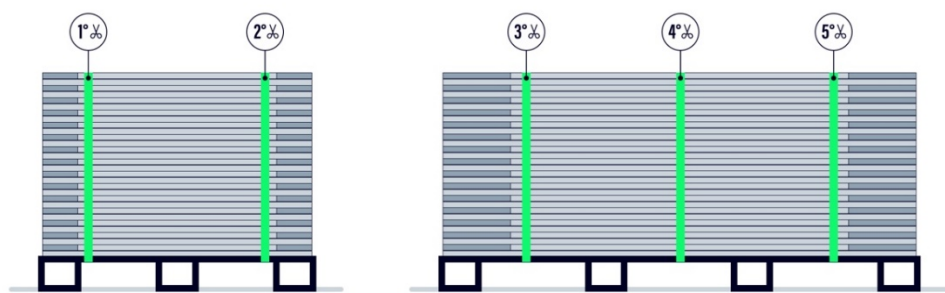

Figure 22: top box internal straps removal order.
- c) Cut the 5 internal straps (Figure 22).